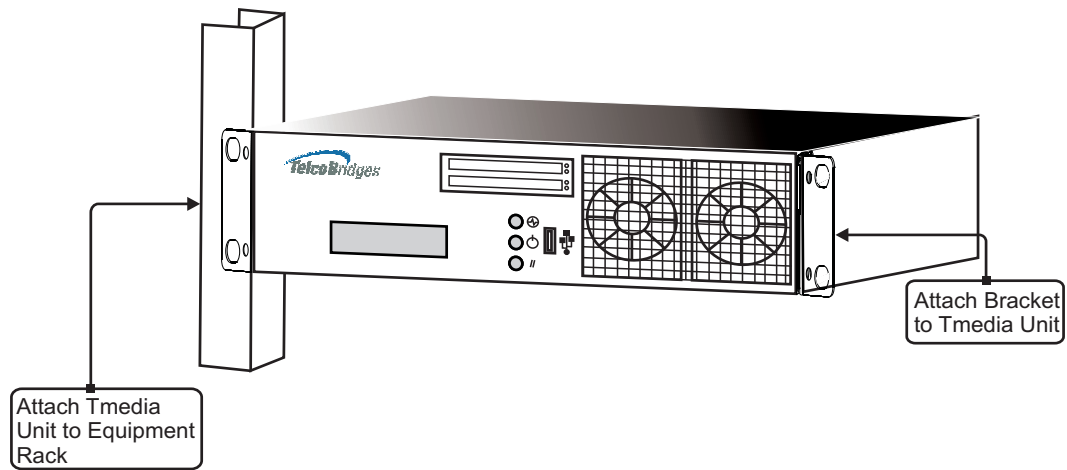

Figure 2.1 Mounting the TMG5800
1. Using two metal screws, attach one angle bracket to the front, left-hand side of the TMG5800 when viewed from the front, as shown in figure 2.1 on page 8. Repeat the same for the angle bracket on the right-hand side.